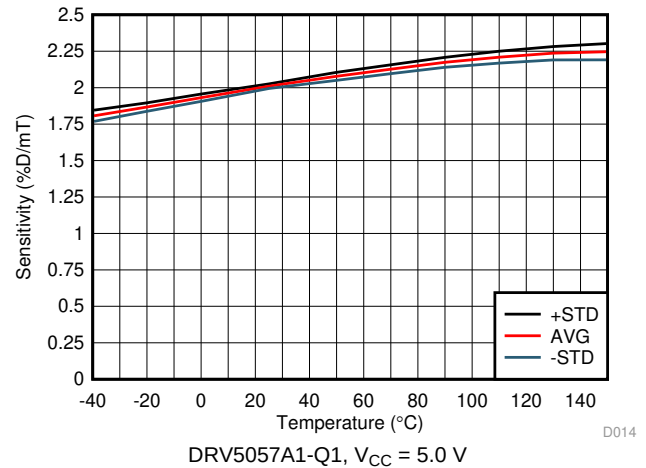

図 4. Sensitivity vs Temperature
(1) This unit is a percentage of duty cycle.
(2) B is the applied magnetic flux density.
(3) See the Sensitivity Linearity section.
(4) B_L describes the minimum linear sensing range at 25°C taking into account the maximum V_Q and sensitivity tolerances.
(5) S_{TC} describes the rate the device increases Sensitivity with temperature. For more information, see the Sensitivity Temperature Compensation for Magnets section and Figure 4 to Figure 11.